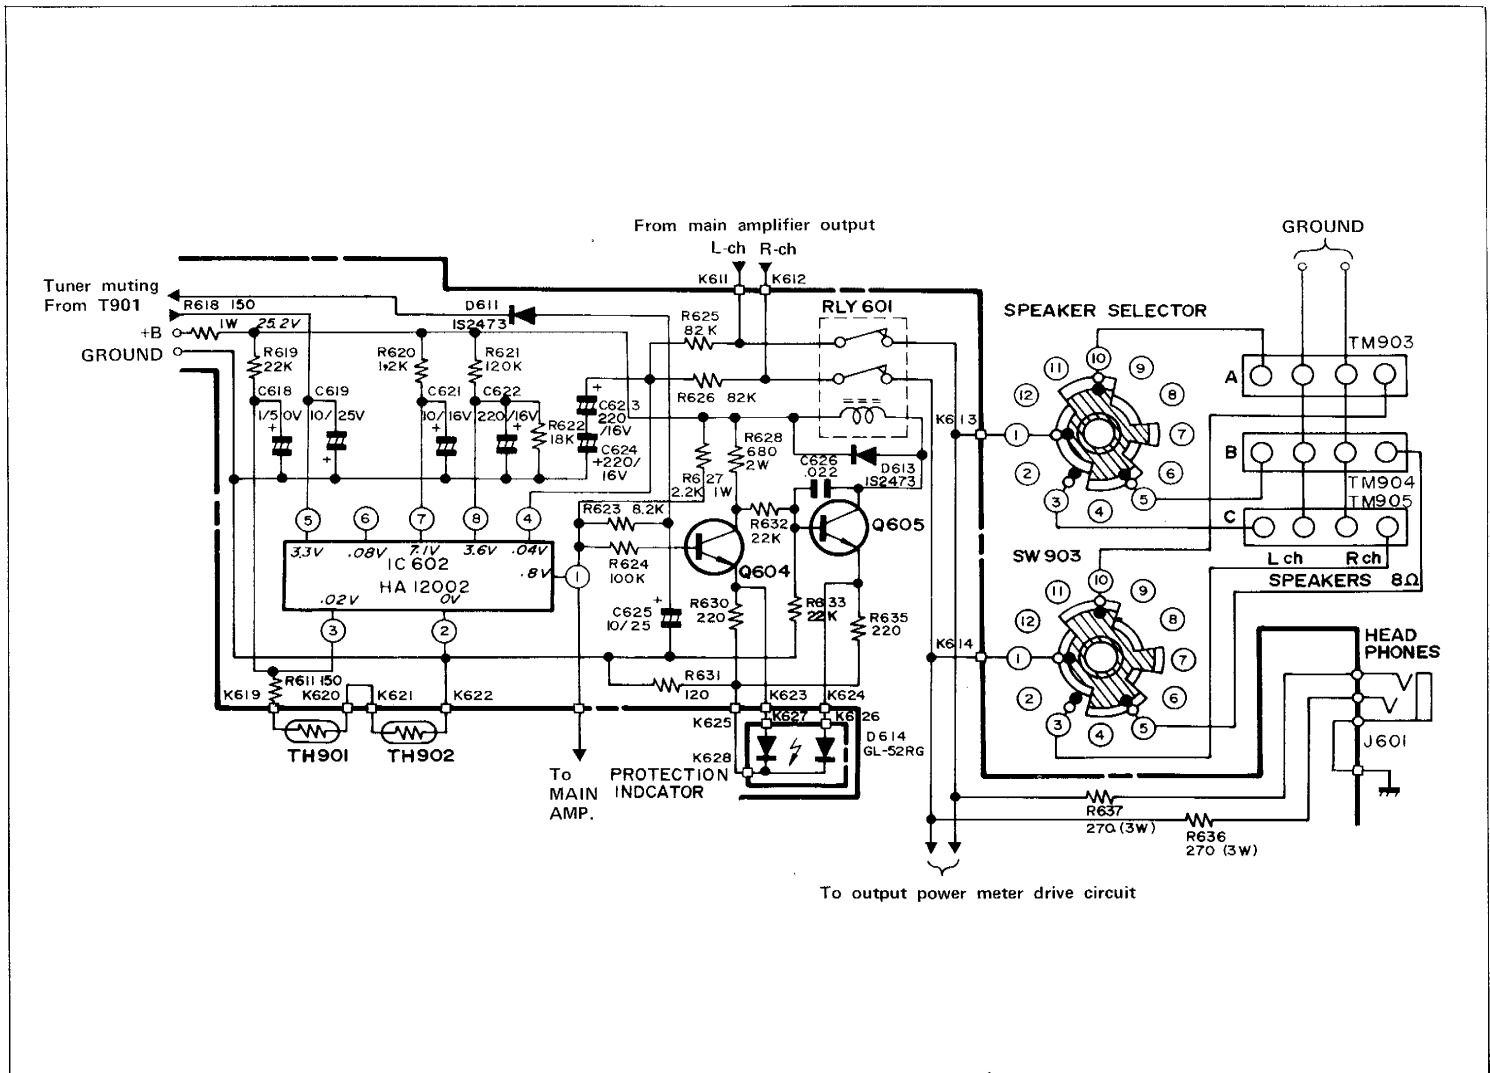

Figure 20 PROTECTION CIRCUIT (RELAY CIRCUIT)
**PROTECTION CIRCUIT (RELAY CIRCUIT)** (Refer to Fig. 20, 21-1 and 21-2)